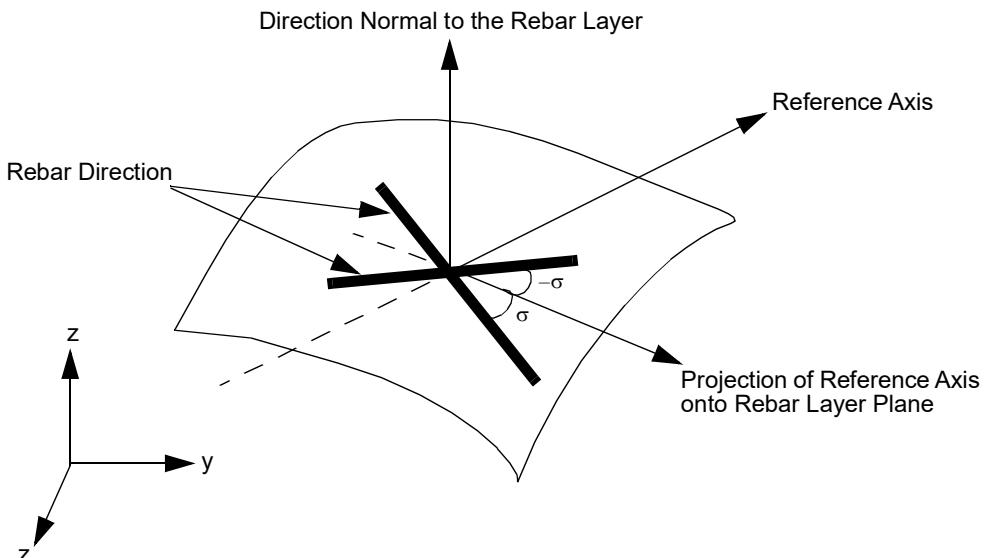
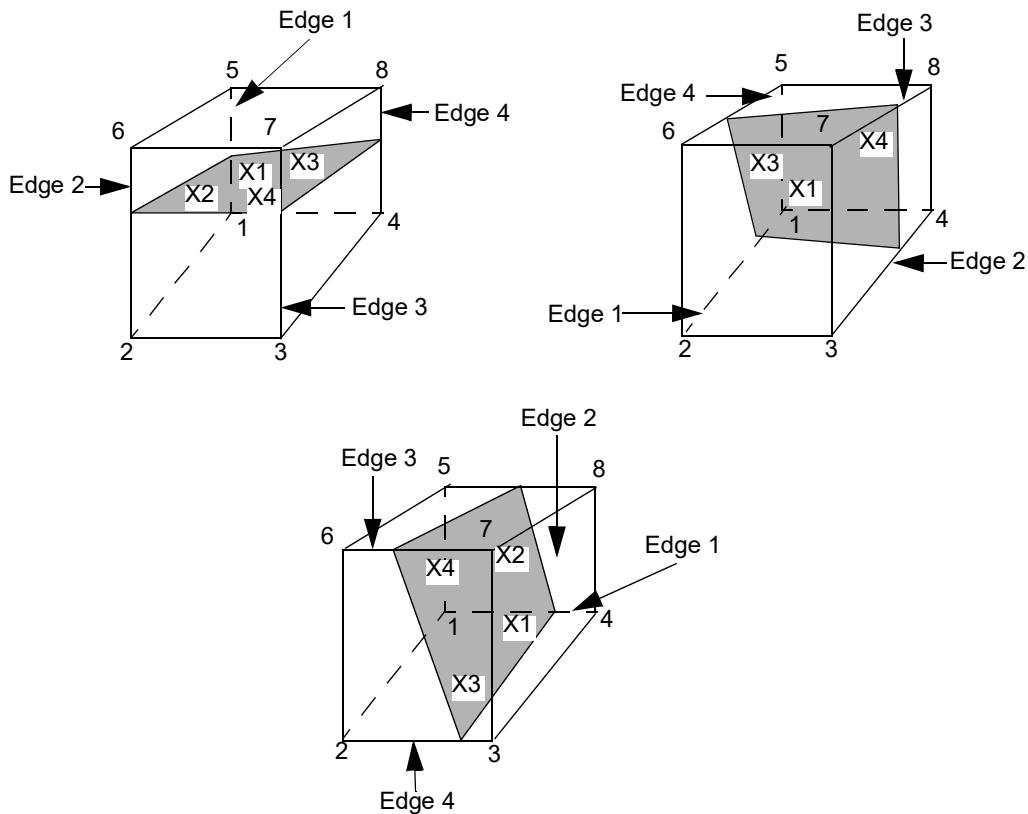

Figure 9-146 Description of rebar orientation on a single rebar layer
Figure 9-147 Rebar numbering and orientation type (IORI value) - only 3D supported
ANGi	Angle (degrees) between the rebar and the projection of the reference axis on the rebar layer plane (see the following figure). (Real; Default = 0.0, must be between -90.0 and 90.0), see Figure 9-146 .
IORIi	Rebar layer orientation type, see Figure 9-147 . (Integer; Required; no Default) 1 = Thickness direction is from the 1,2,3,4 face to the 5,6,7,8 face 2 = Thickness direction is from the 1,4,8,5 face to the 2,3,7,6 face 3 = Thickness direction is from the 2,1,5,6 face to the 3,4,8,7 face
2. See Figure 9-146 and Figure 9-147 for a definition of ANG and IORI.
4. For each rebar layer, the user is required to define cord material identification number, cross section area of the cords, density of the cords, and an angle (defining spatial orientation of the cords). α is the angle between the cord and the projection of a predefined reference axis on the rebar layer plane as shown in the Figure 9-146.